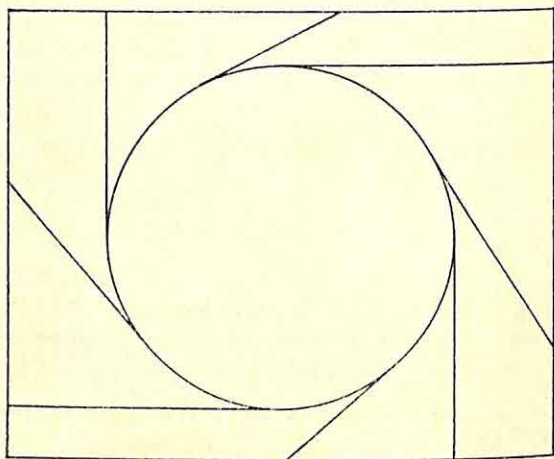

Figure 82
2. Score a series of lines tangential to the curve (see Figure 82).